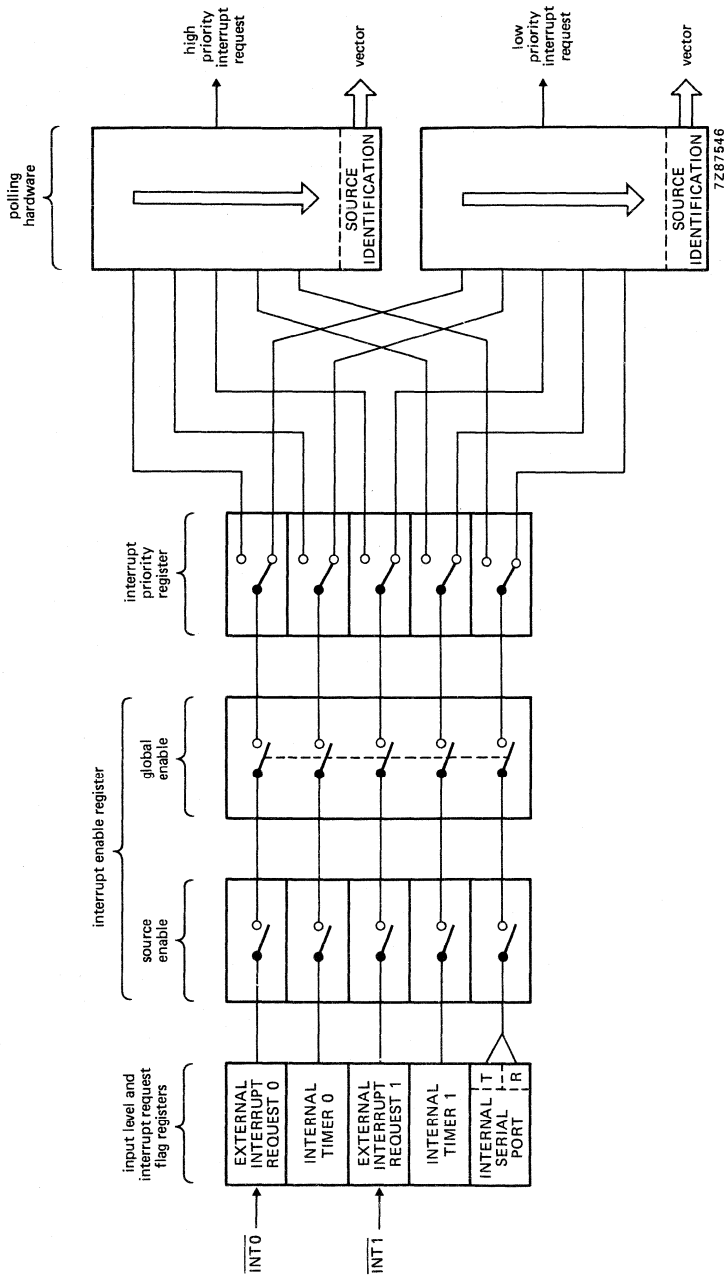

Fig. 7 Interrupt system.
**Interrupt system** (see Fig. 7)